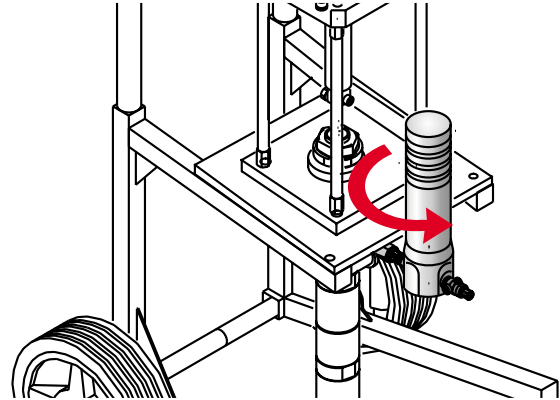

Fig.35
4) **NEVER** remove the upper filter casing while the machine is in operation (fig. 35) but proceed in the following way: